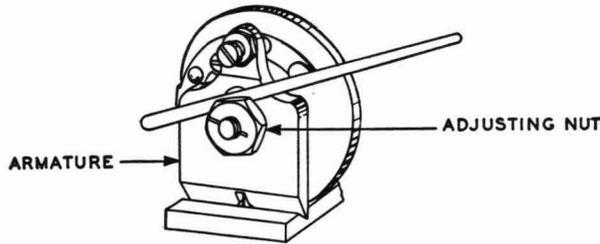

Fig. 7—Blocking 105-, 108-, and Similar-type Relays Operated
3.09 **105-, 108-, and Similar-type Relays:** Fig. 7—Block relays operated by inserting a toothpick between the armature and the adjusting nut.